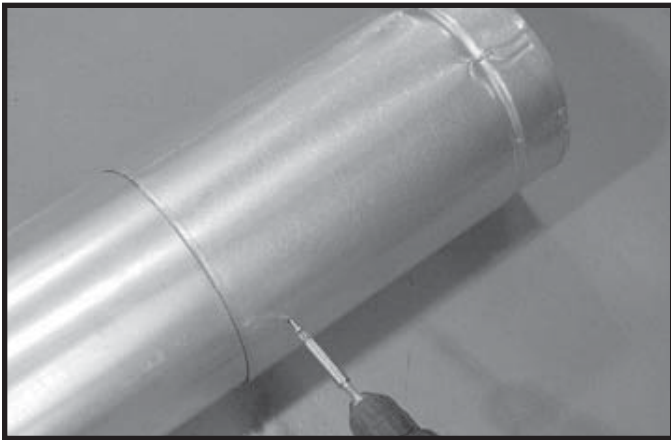

Figure 10.4 Screws into Slip Section
- Secure the pipe and slip section with two screws no longer than 13 mm, using the pilot holes in the slip section. See Figure 10.4.